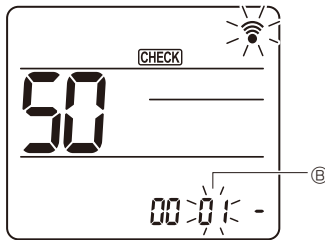

Fig. 6-20
③ Select a mode
Press the **DOWN** button to set Mode number ②. (Fig. 6-20)